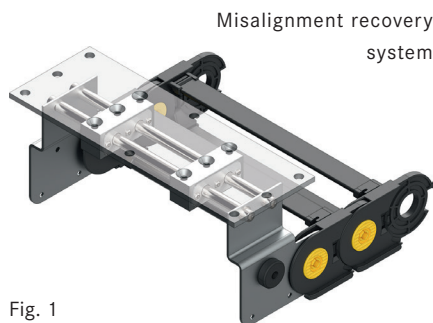
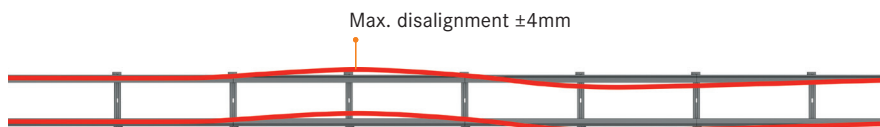

Fig. 1
Fig. 4
- Misalignment recovery system (**Fig. 1**) for the mobile point in order to reduce the friction between the sidebands of the chain and the walls of the channel
Despite the precautions taken in the assembly phase, it may be that the channel is not aligned with the movement of the towing arm. If the maximum disalignment between the guide channel line and the movement of the towing arm is bigger than $\pm 4\text{mm}$ (**Fig. 4**), it is necessary to recover this gap using a misalignment recovery system mounted on the mobile point of the cable chain (**Fig. 1**).